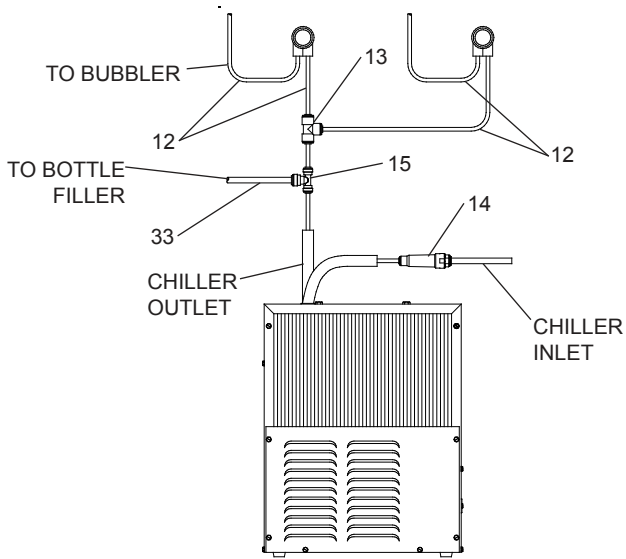

Figure 2 - EZWS-ERP B Tube Routing
- 3a. (For EZWS-ERPBM28K) **Install** strainer on the input tube to the chiller (Fig 2).